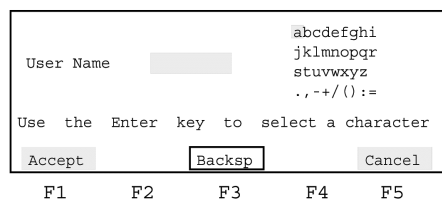

Figure 3-2. The User Name screen
2. Press **F2-New**. This displays the User Name screen (Figure 3-2).
6. Press **F2-Name** to display the User Name screen (Figure 3-2).